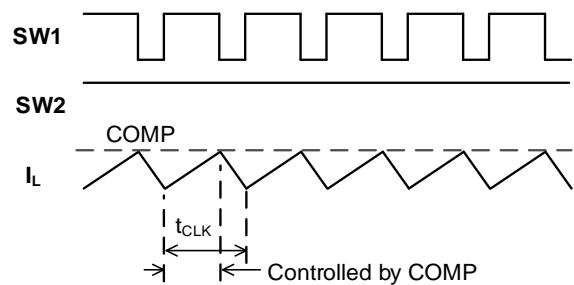

Figure 5: Buck Mode Waveform
SWA works with a peak current mode control logic, and SWB turns on until the t_{CLK} times out. In each buck mode cycle, SWA turns on to charge I_L . When I_L reaches the value set by V_{COMP} , SWA turns off and SWB turns on. SWB stays on until the next clock begins. Then SWA turns on and the cycle repeats. The COMP signal is the error amplifier (EA) output from the V_{OUT} feedback and the internal FB reference voltage. Figure 5 shows the buck mode waveform.